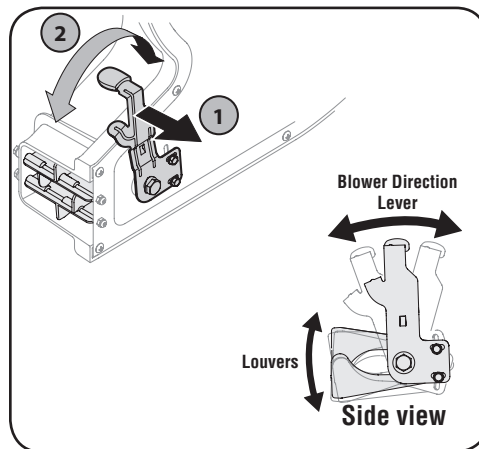

Figure 3-2
1. Pull the lever out and away from the blower. See Figure 3-2.